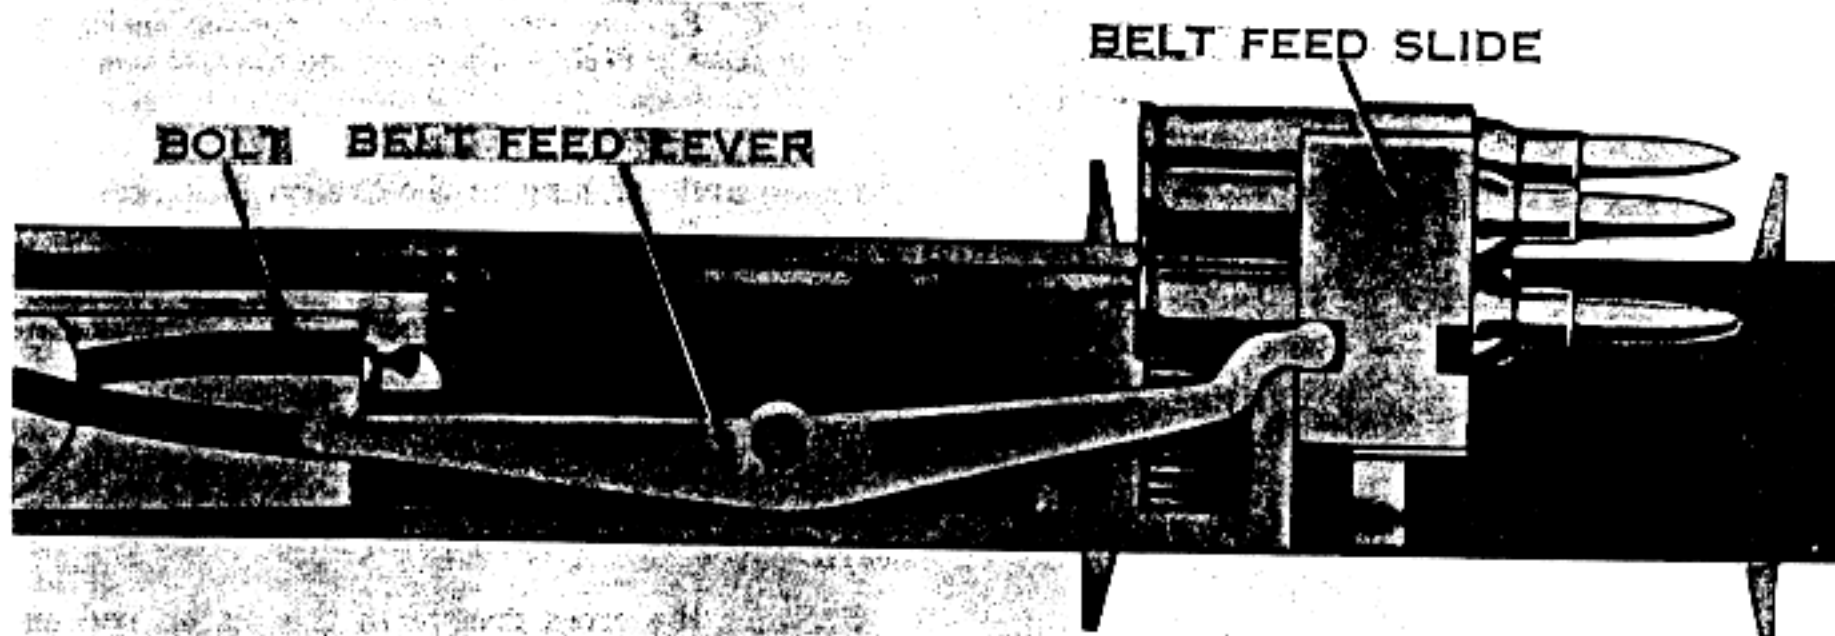
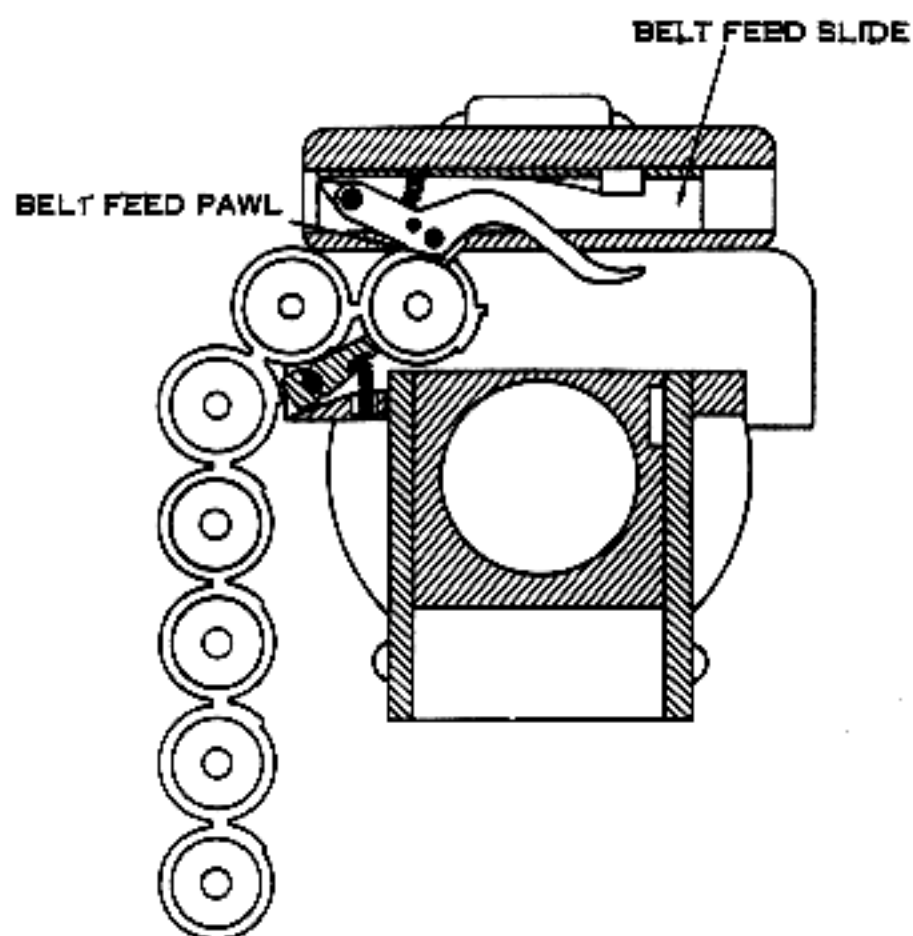

Figure 87. Feeding—belt feed slide moving out of the side of the cover.
Figure 88. Feeding—belt feed pawl riding over the first round.
(2) As the bolt moves to the rear, the cam grooves guide the belt feed lever, pivoting the lever and moving the slide out the side of the cover (fig 87). The belt is held stationary by the belt holding pawl, while the belt feed pawl pivots compressing its spring, and rides up over the link holding the first round (fig 88).